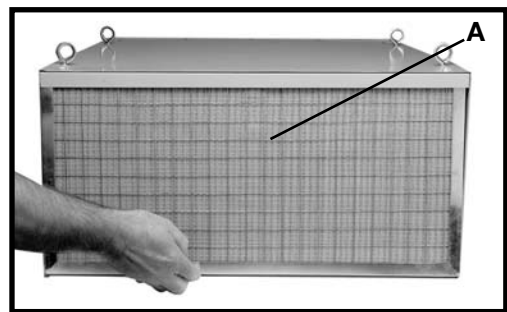

Fig. 9B
2. Remove the outer first stage filter (A) Fig. 9B by lifting and pulling out on the bottom of the filter. Clean or replace the first stage filter depending on its condition. Clean this filter in one of two ways: Use a shop vac to remove the dust, or use compressed air (30 psi maximum) to blow the dust out of the filter. If you replace the outer filter, check to see if the filter has an air flow arrow (A) Fig. 9D. If so, point the arrow inward. If the filter does not have an air flow arrow, install the filter either way.